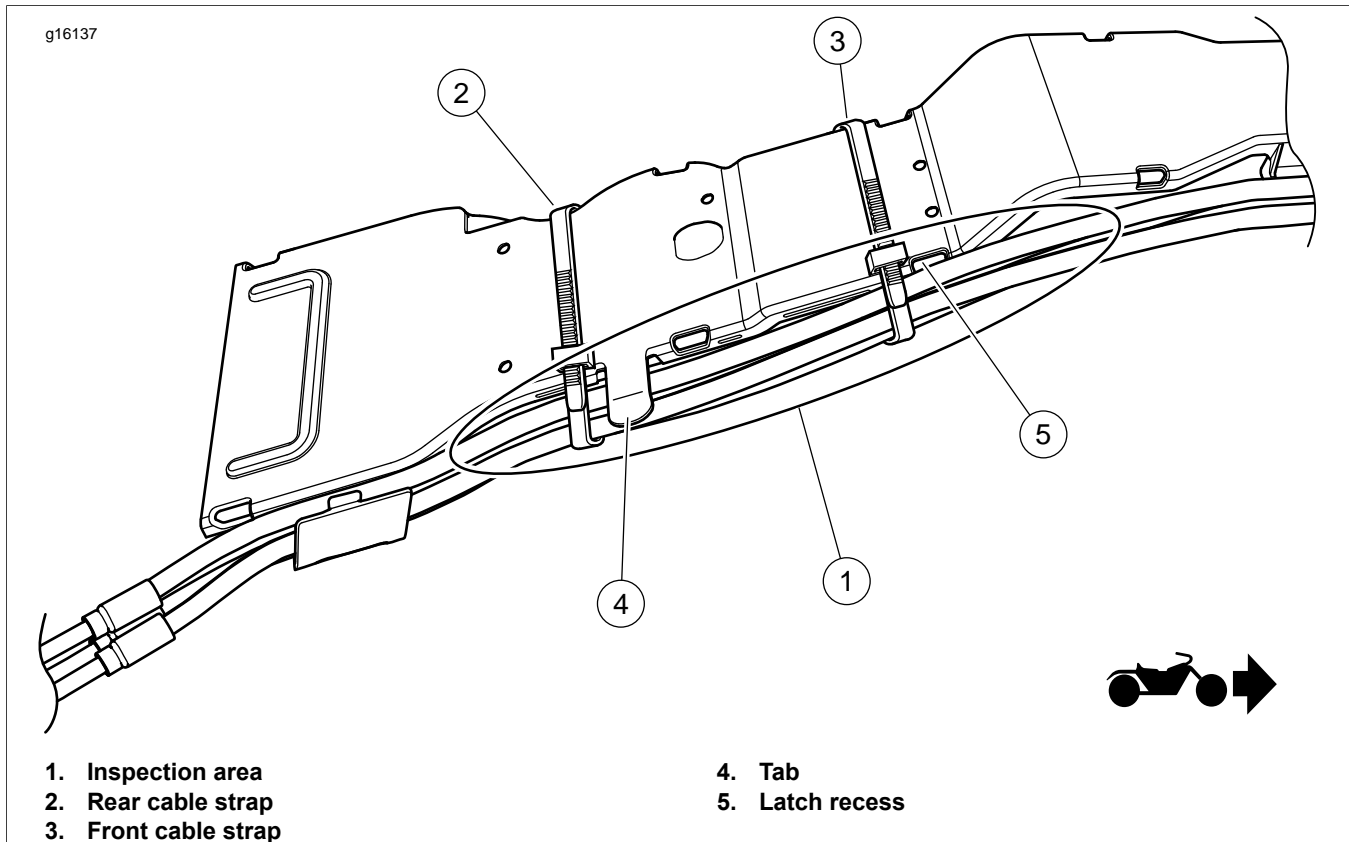

Figure 1. ABS Brake Line Cable Straps
3. See Figure 1. Inspect brake line routing along the wire trough. Verify that the lines are secured by two cable straps (2, 3) as shown. Motorcycles built October 14, 2013 and later will have the rear cable strap (2) already installed. Installed cable straps may be black or white in color. Both are acceptable.
- a. Inspect lines for damage in area (1).
- c. Verify that lines are properly routed under tab (4).
- d. Secure lines with one or two **new** cable straps (2, 3) (Part No. 10039) as required. Locate rear cable strap (2) within 1/2 in (13 mm) rearward of tab (4). Locate front cable strap (3) at or near latch recess (5).